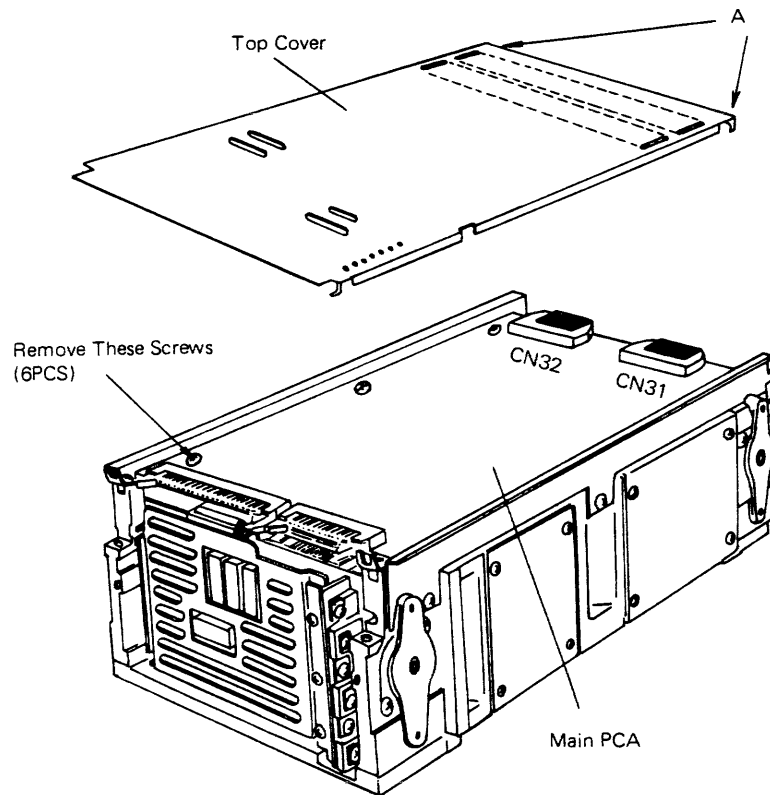

Figure 6.2 Main PCA replacement
Refer to Figure 6.2.
(1) Removal
- ① Loosen screws "A" and remove the top cover.
- ② Disconnect wiring (CN31 and CN32) from the Main PCA.
- ③ Remove the six screws indicated in Figure 6.2.
- ④ Remove the Main PCA by lifting up.
(2) Installation
- ① Fasten the Main PCA to the side frame, six screws.
- ② Fasten connectors (CN31 and CN32).
- ③ Install the top cover and tighten screws "A".